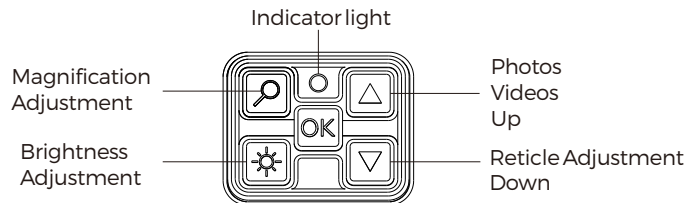

Fig 8
3. Camera Control Function (Figure 8)